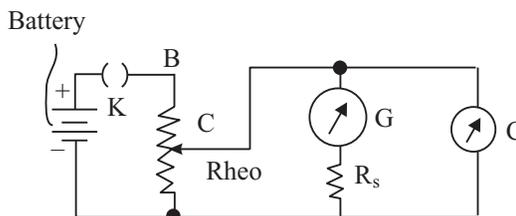

Fig. 29.3
- (vi) After having determined the internal resistance  $G$  and full scale deflection current  $I_g$  of the given galvanometer, calculate the series resistance  $R_s$  by using equation (29.5). Connect this resistance in series with the galvanometer. The galvanometer will become a voltmeter of range  $V$ . To check the correctness of conversion of the Galvanometer, compare it with a standard voltmeter using the circuit shown in Fig. 29.3.